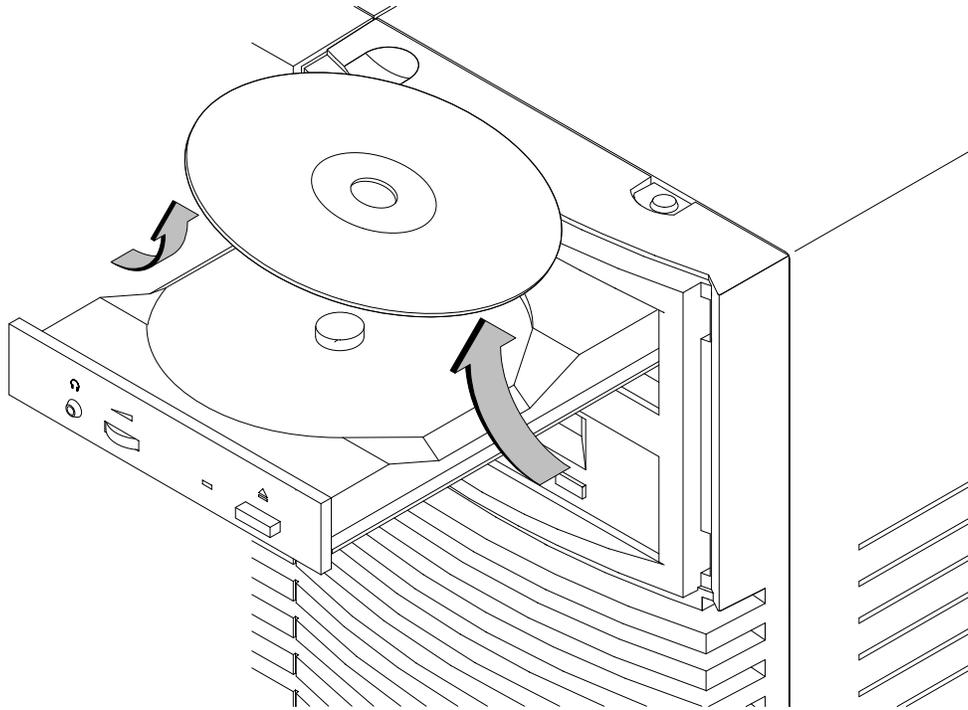

Figure 6–6. Removing the CD-ROM Disc From the Disc Tray
3. Grasp the disc by the edges and lift it out of the disc tray, as shown in Figure 6–6. Be careful to touch only the edges of the disc.